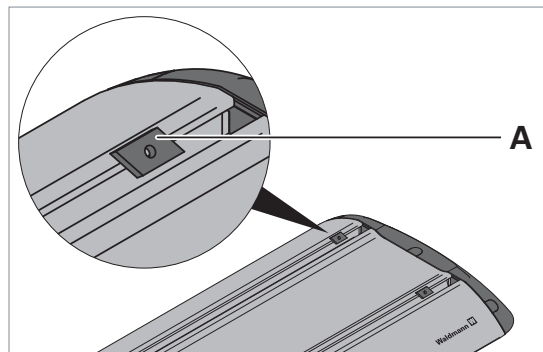

Fig. 5: Inserting the slide nuts.
- ▶ Insert the four enclosed slide nuts **A** into the T-slots of the luminaire, see Fig. 5.